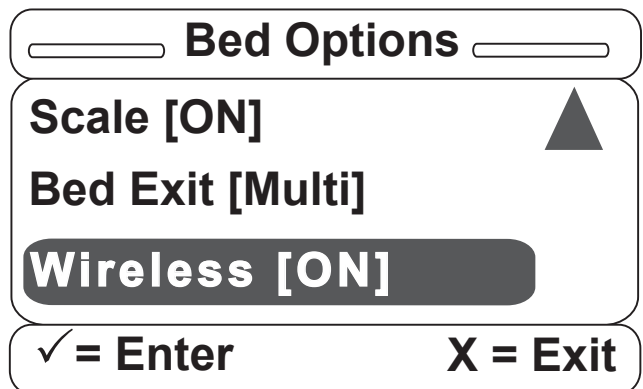

Figure S-21
21. Once the Wireless option is set, you will be returned to the Bed Options screen as shown in Figure S-21. Once there is text in square brackets next to each option in the Bed Options menu, all of your options have been set. You may re-enter any option and change the setting at any time.